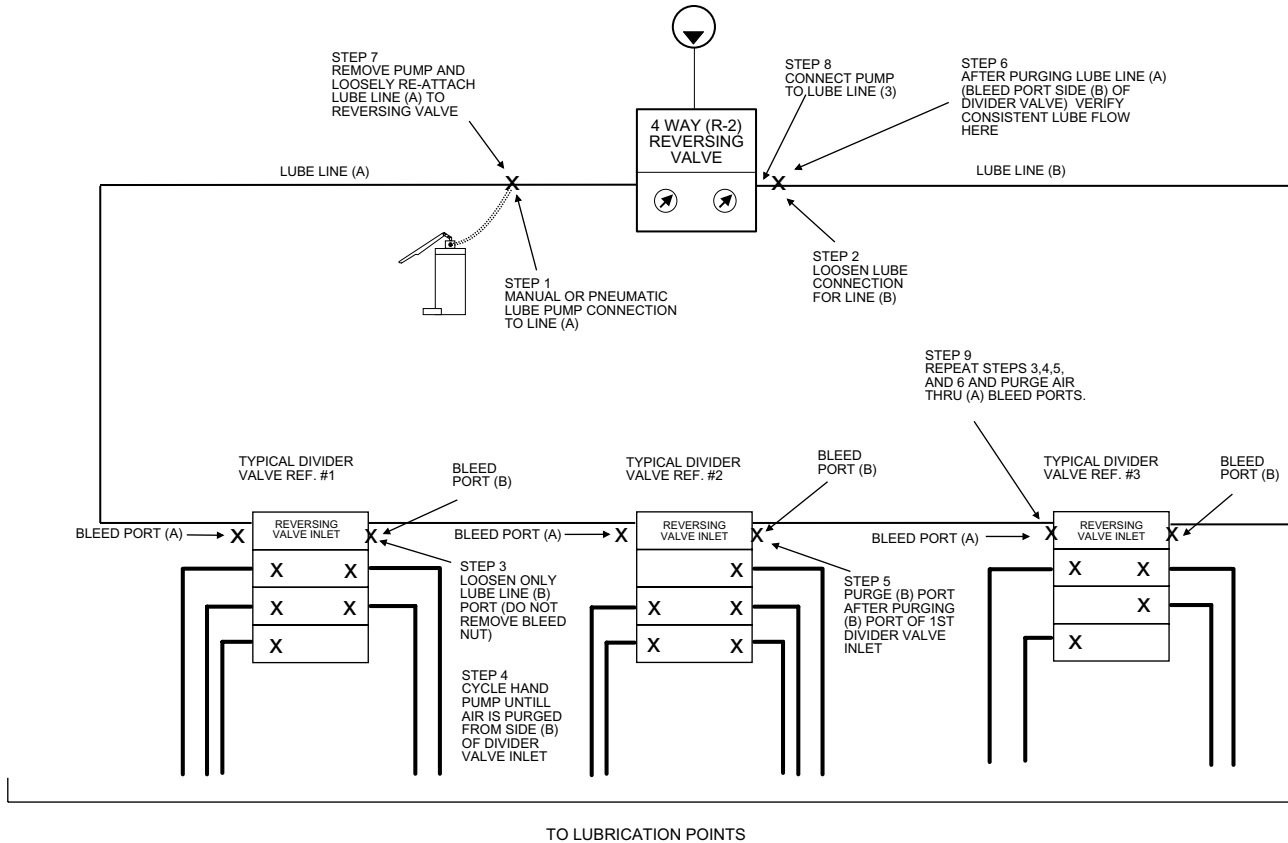

Figure 1
Disconnect Lube Line (A) from the 4-way (R-2) reversing valve and connect a high volume output manual or pneumatic pump to Lube Line (A). See Figure 1.
Loosen lube line (B) fitting at the R-2 reversing valve. See Figure 1.
Proceed to next divider valve (Ref. #2), and loosen 1/4" hex bleed screw located on (B) side of divider valve inlet. Cycle pump until air is purged from divider. Retighten bleed screw. See Figure 1.
Continue with this procedure for Lube Line (A) for all divider valves in sequence. Once completed, cycle manual or pneumatic pump until oil, free of air, is flowing to Lube Line (B) connection at R-2 reversing valve. See Figure 1.